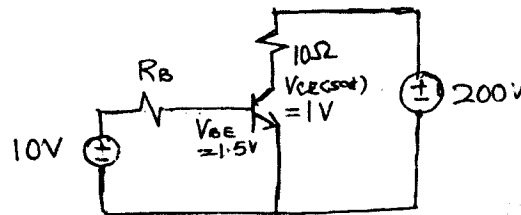

Fig.Q2(b)
- b. For the transistor switch of Fig.Q2(b),  $\beta$  varies between 8 and 40. Calculate: